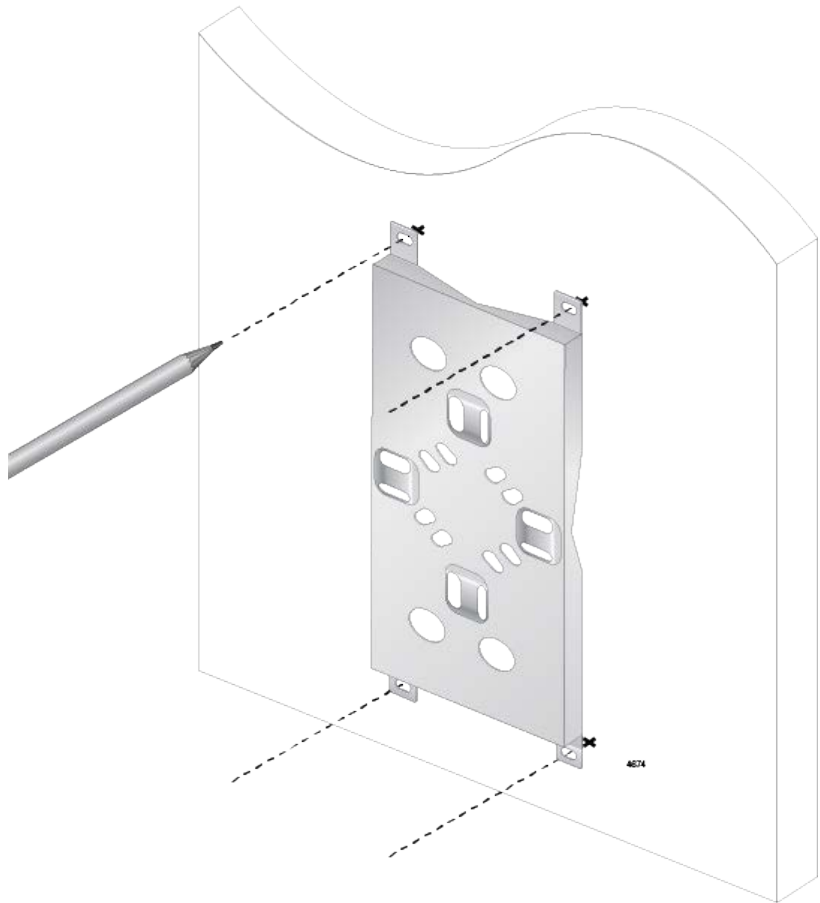

Figure 27. Marking the Mounting Base Holes on the Wall
2. Hold the mounting base on the wall at the desired location for the access point and mark the four mounting base holes with a pencil. See Figure 27 on page 45.